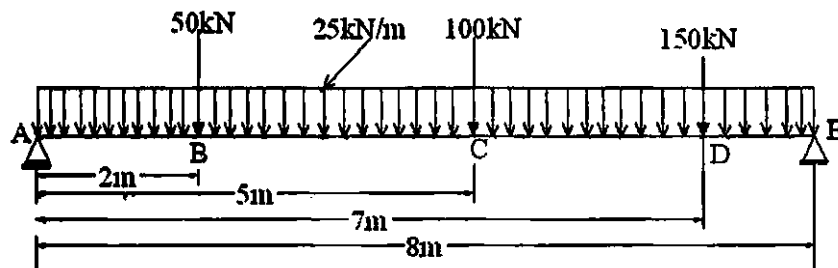

Fig. 5.2
- (b) A simply supported beam 8m long carries three point loads at 50 kN, 100 kN, 150 kN at 2 m, 5 m and 7 m from left roller support. The self weight of the beam is 25 kN/m. The rigid end support is hinged. Draw S.F.D. and B.M.D. for the beam. (Fig. 5.2) [6]